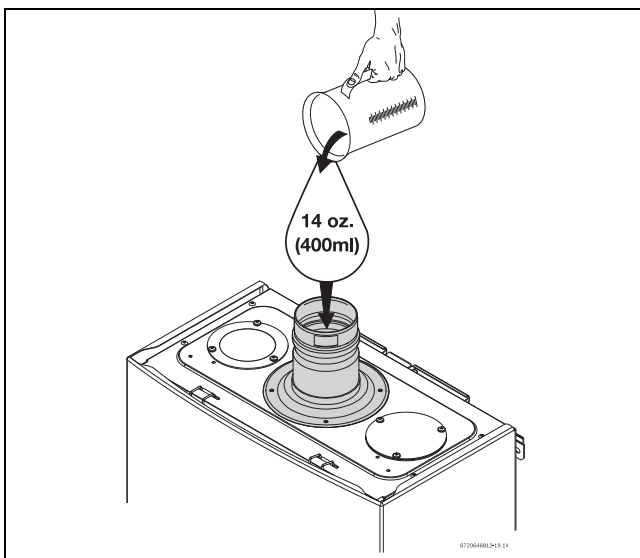

Fig. 38 Filling the condensate trap at start up
- ▶ Fill the condensate trap by pouring approx. 14 oz. (400ml) of water into the exhaust accessory on the top of the appliance, see fig. 38.